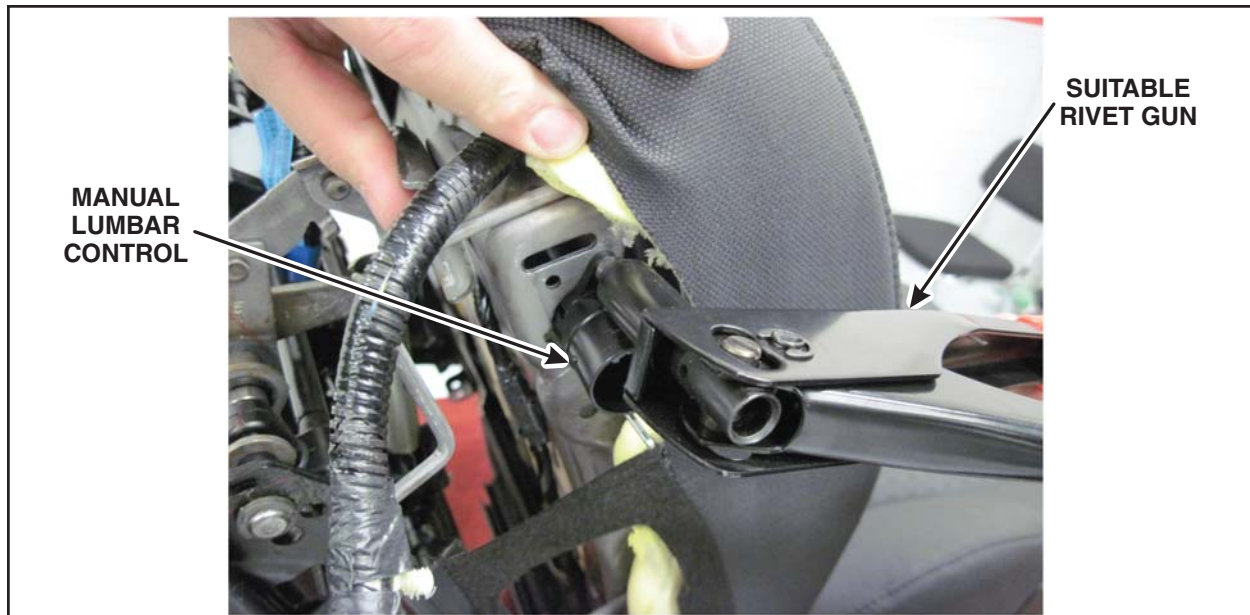

FIGURE 22
44. Using a suitable rivet gun, install the manual lumbar control onto the seat cushion frame with two **new** rivets. See Figure 22.